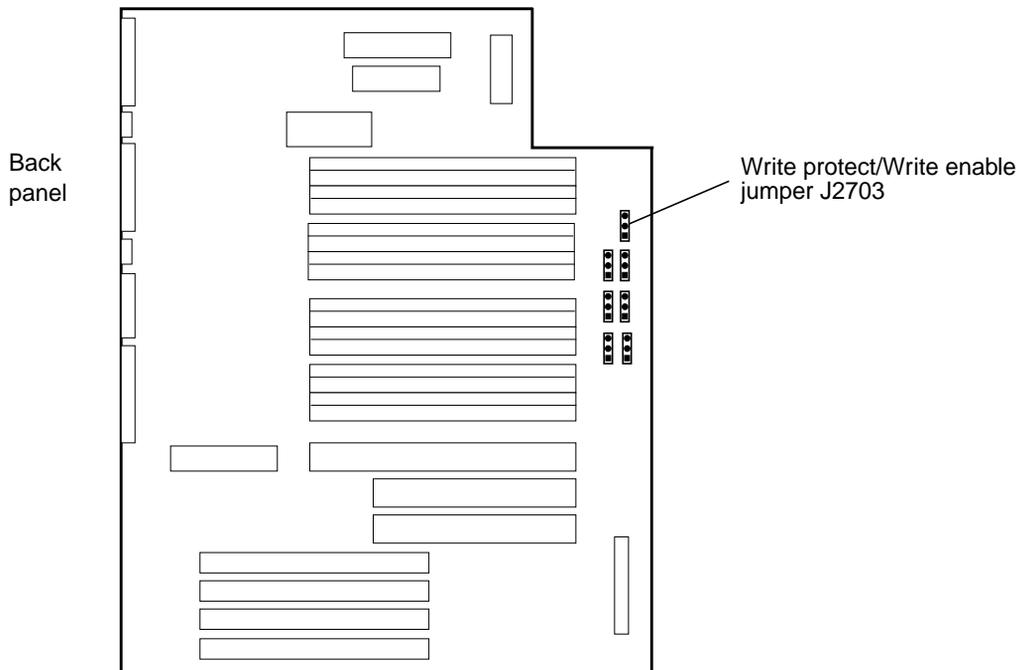

FIGURE 1-4 Sun Ultra 30 Flash PROM Jumper Location on Motherboard
- For a Sun Ultra 30 system, see FIGURE 1-4 on page 1-5.